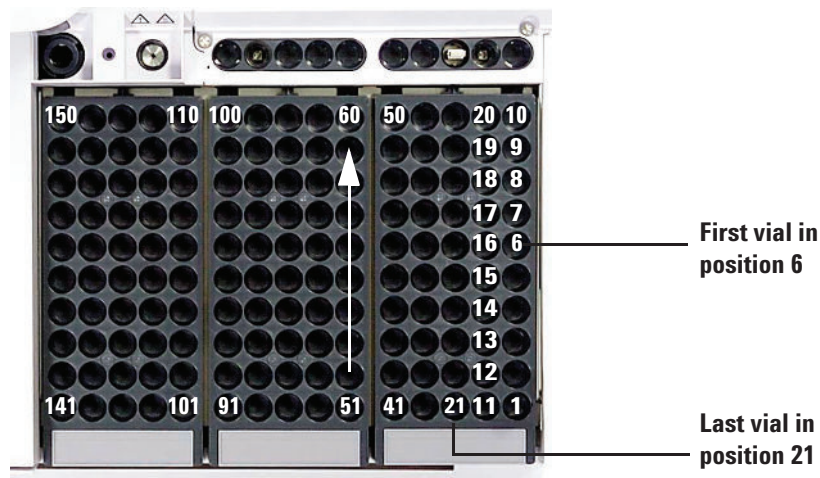

Figure 2 Loading tray positions
- Place up to 150 samples in the three vial racks, according to the programmed sequence. Figure 2 shows tray loading for a sequence that uses tray positions 6 through 21.